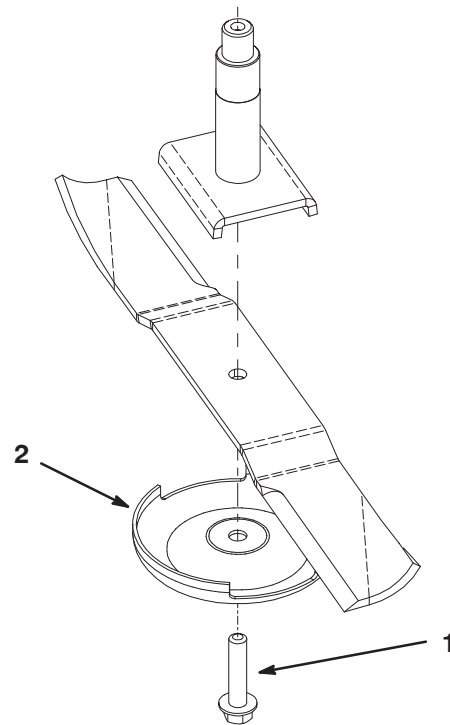

Figure 33
2. Grasp the end of the blade using a rag or thickly padded glove. Remove the blade bolt, anti-scalp cup, and blade from the spindle shaft (Fig. 33).